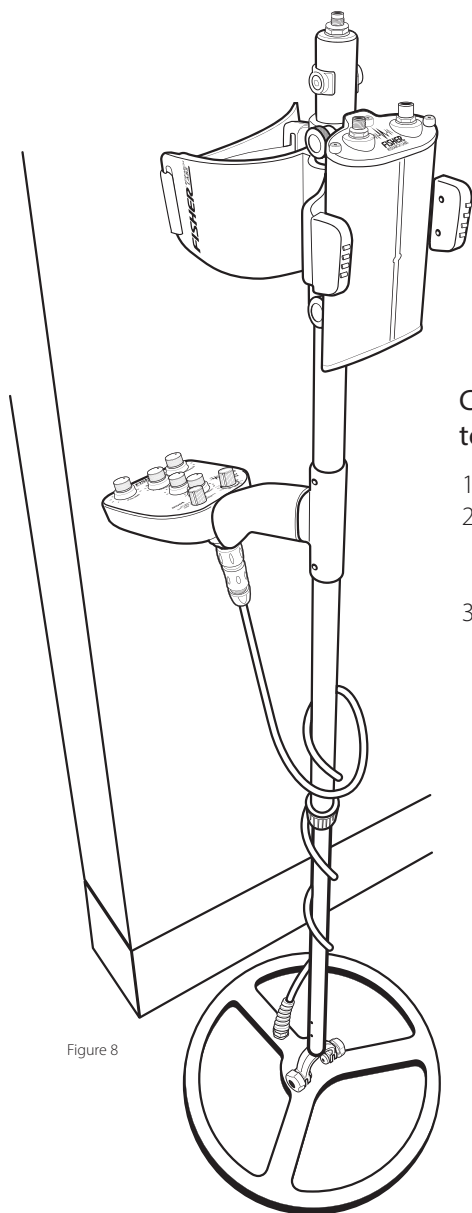

Figure 8
3. Stand detector up with control housing against the wall (figure 8).